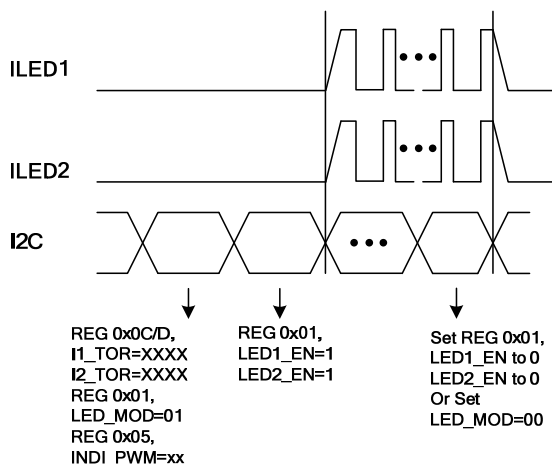

Figure 4: Indicator Mode
When LED\_MOD is set to 01 and LED\_EN1/2 is set to 1, the MP3336 enters indicator mode, which provides a low-current output (see Figure 4). In this mode, the driver current sources work in a 31.5kHz PWM dimming mode. The current amplitude can be set by I1\_TOR and I2\_TOR, while the indicator current step ramps up more quickly at a rate of 7.84mA/step, compared to torch mode's ramp-up rate of 1.25mA/step. The final amplitude in this mode can be calculated with Equation (1):